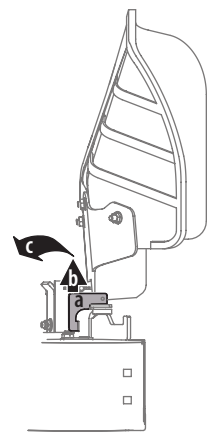

Figure 1
1. The chute is shipped attached and with a stop bracket holding the chute upright. The stop bracket must be removed prior to operating the tractor. See Figure 1.